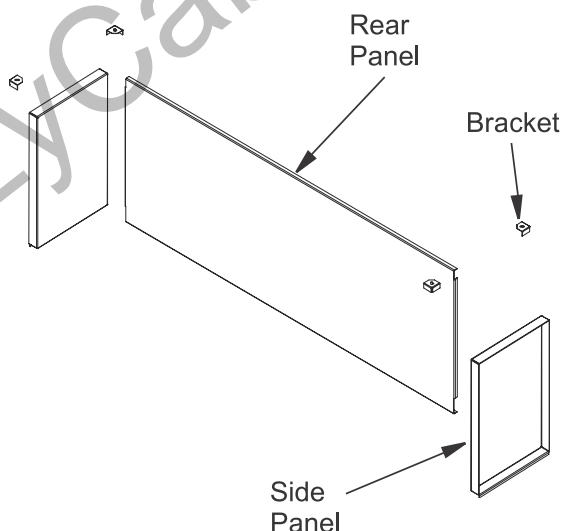

Figure 31 - Removing Rear Interior Wall for See-Thru Applications
2. Unscrew 4 corner brackets from the firebox top (See Figure 31).